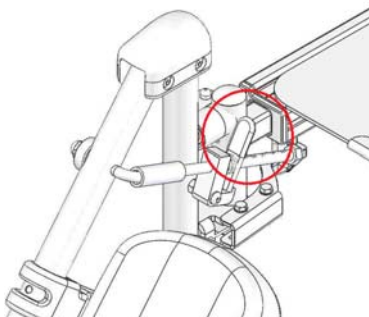

Figure 5-19
5.3.1.4.5 Before descending the footrest, be sure to hold it and prevent it from dropping suddenly. Press the release lever and lower the footrest. (Figure 5-19)